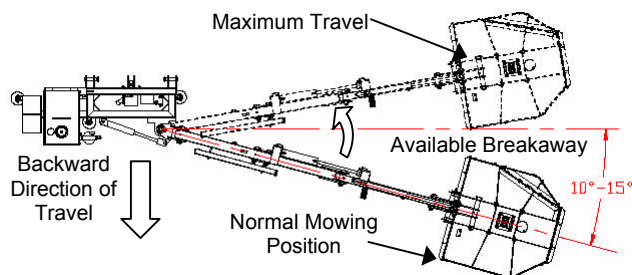

Figure 3
Your Hardee unit can cut as easily when the tractor is moving in reverse as forward. The breakaway protection works in the same way. The only difference being you must swing the booms to the rear 10 – 15 degrees. This will allow for more boom breakaway travel. This space is critical so as not to bottom-out the boom arm. See figure 3
*You must allow for the extra boom travel when mowing in reverse. See figure 3. If you have any questions about these instructions, please ask your local Hardee dealer immediately! Warranty claims for equipment used improperly will not be honored.*